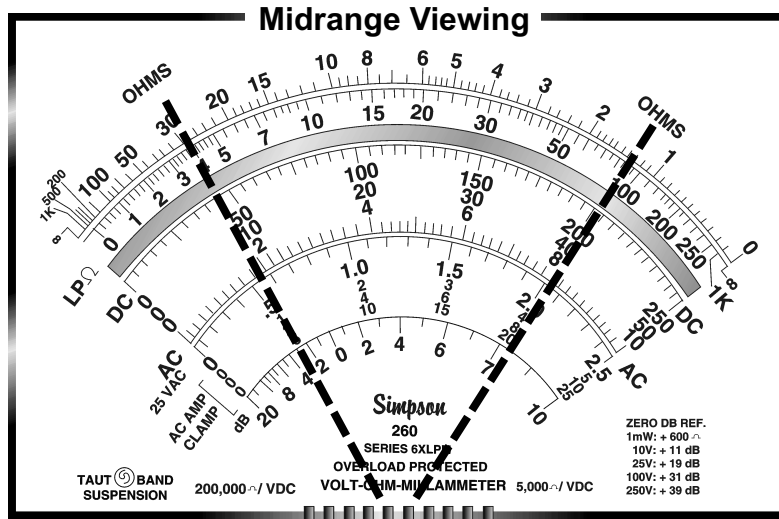

Figure 4
- Select the appropriate voltage or resistance range so that the readings are in the center portion of the scale. This will give a more accurate reading (see Figure 4).